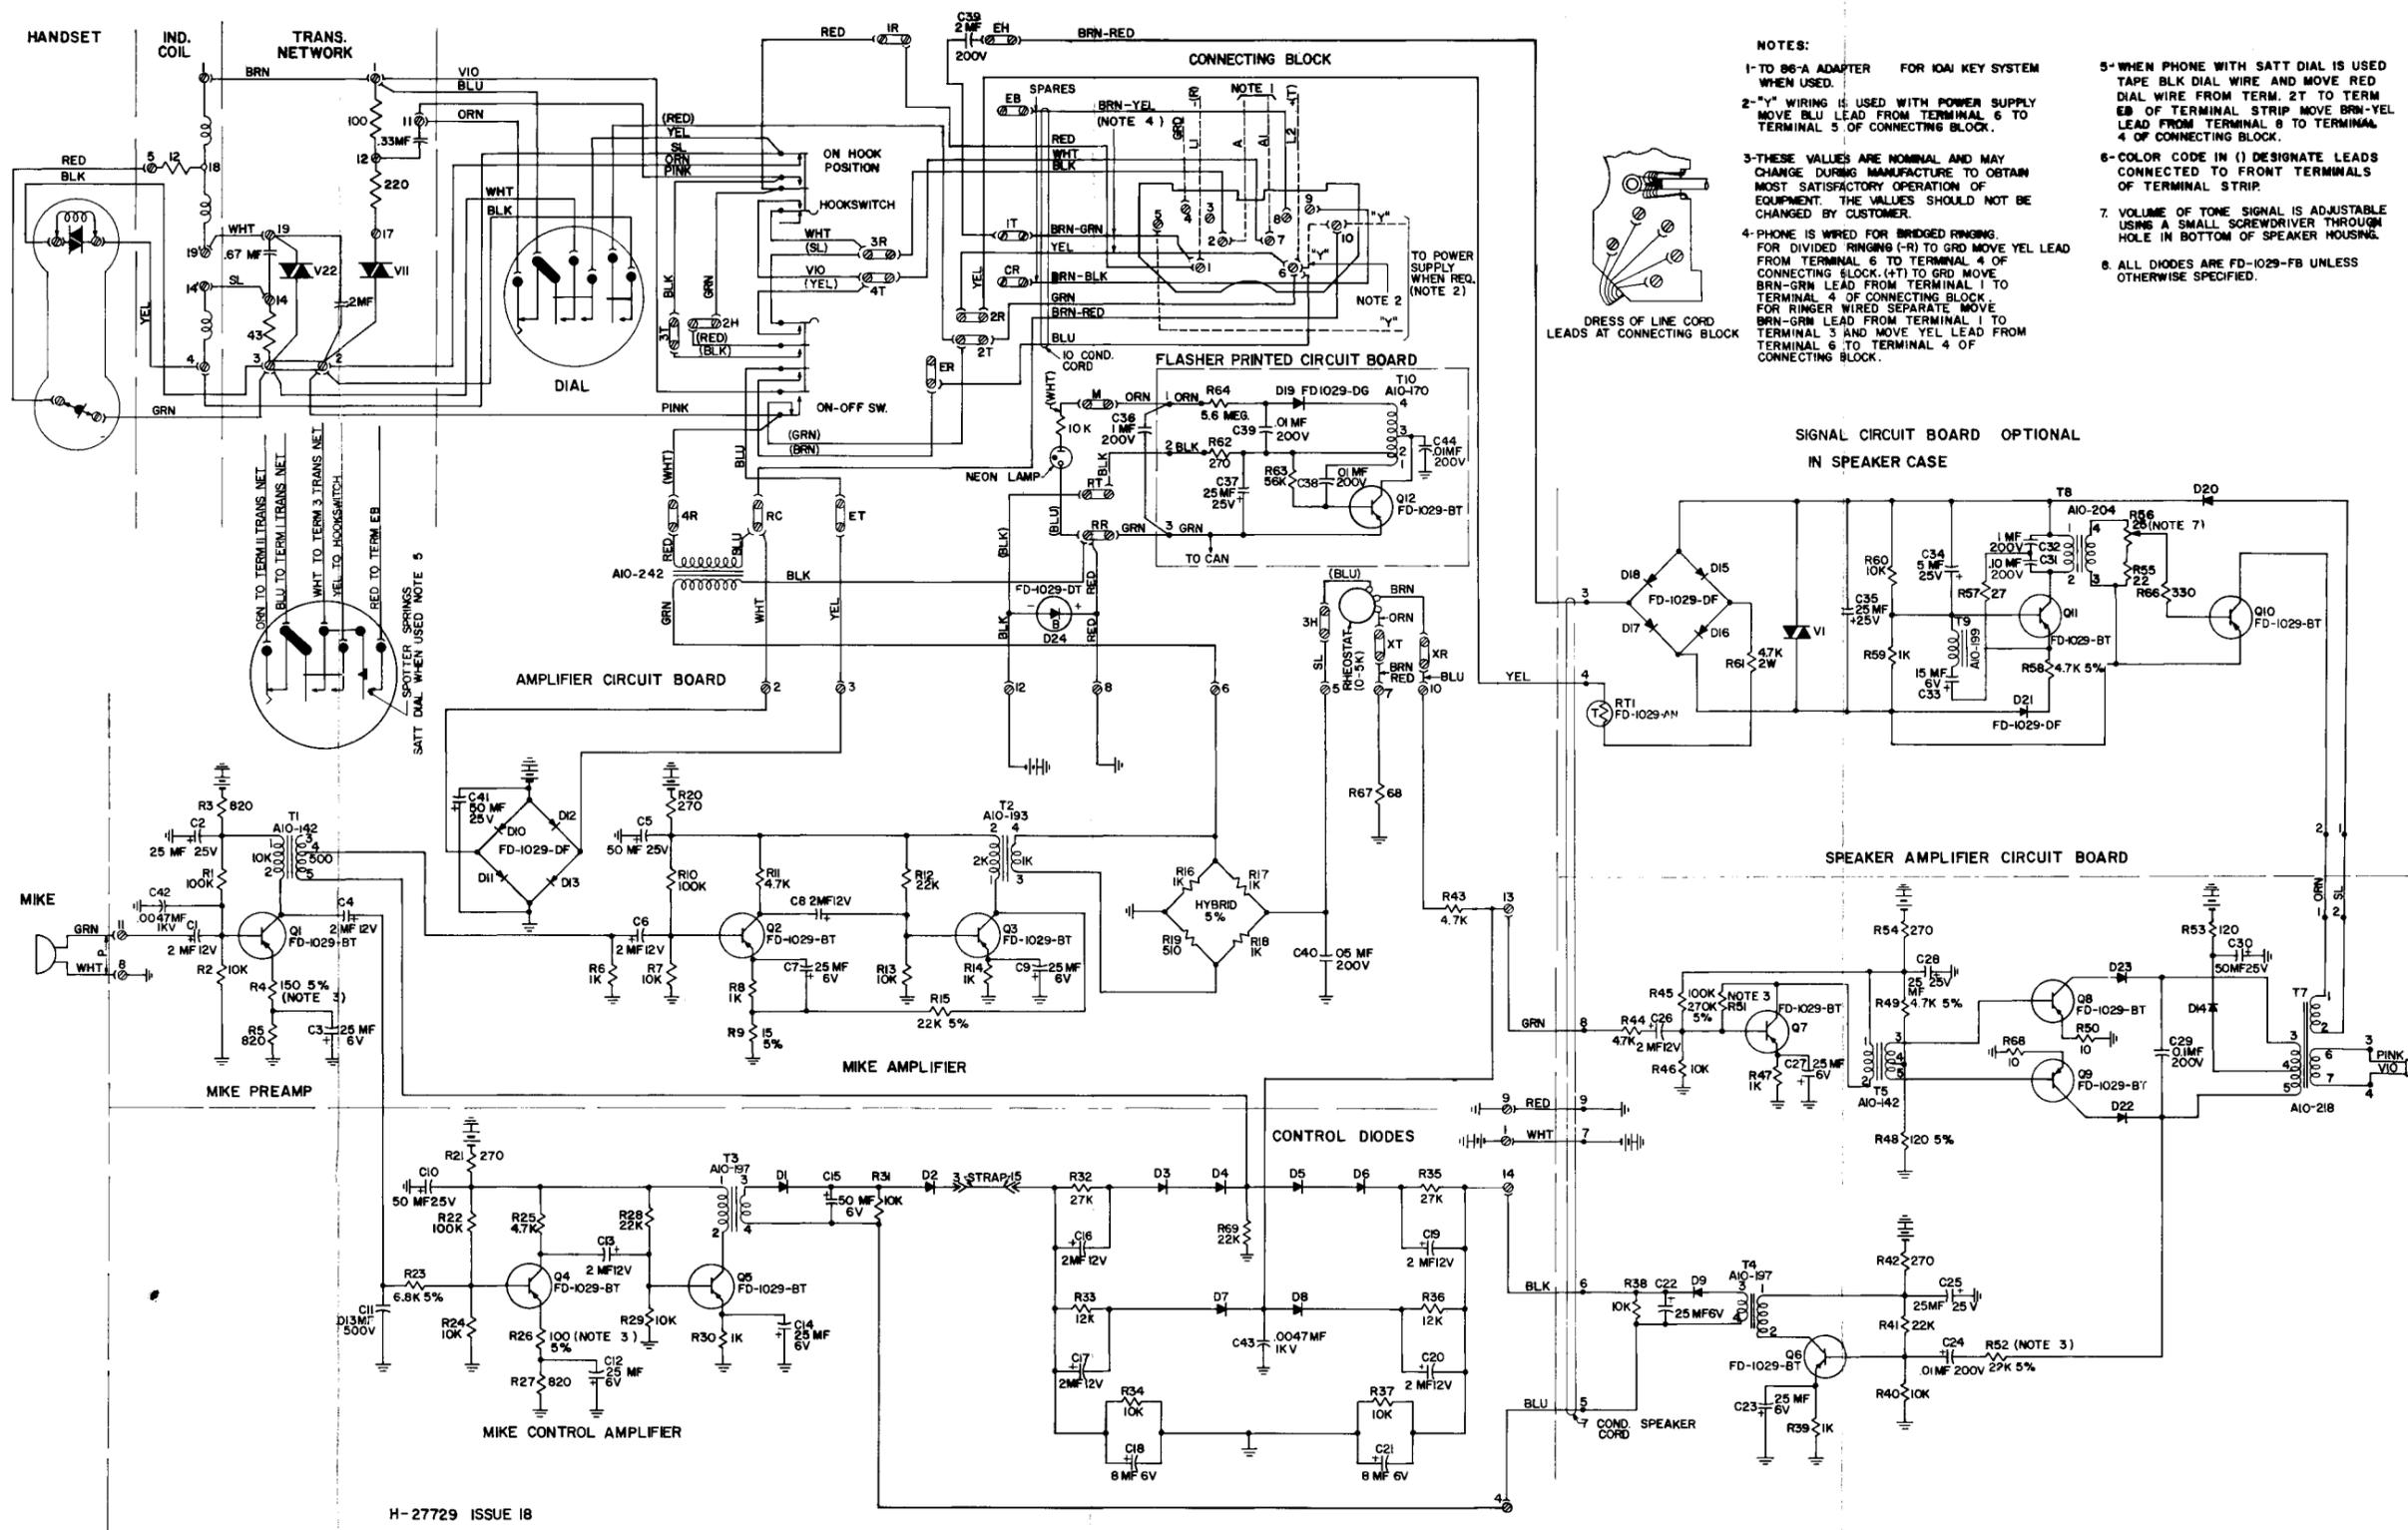

Figure 12. Schematic and Wiring Diagram, Type 880 Speakerphone.
- (1) Position the dial assembly in the backing plate, and align the dial mounting screw holes with the holes in the backing plate.
- (2) Fasten the dial to the backing plate with the three dial mounting screws.
- (3) Connect the dial leads to their proper terminals (Figure 12) as follows (non-SATT dial):
- (1) Remove the lower housing.
- (2) Release the amplifier circuit board by pressing aside the two spring type mounting brackets, and set it aside.
- (3) Disconnect the line cord leads from the terminal strip.
- (4) Release the line cord holder and pull out the old line cord.
- (5) For bridged ringing, refer to Figure 12 and connect the new line cord leads to the terminal strip as follows:
5.11 Refer to Figure 12 and its appropriate note for divided ringing connections.
6.01 The Type 880 Speakerphone (refer to Figure 12) contains two separate telephone circuits (basic and electronic). Each circuit contains components peculiar to the mode of operation, and also those which are common to both circuits. Switching between circuits is accomplished through an ON/OFF switch which is interconnected with a standard hookswitch. When the ON/OFF switch is in the OFF position, the hookswitch functions in the same manner as the hookswitch of a standard dial telephone. When the ON/OFF switch is in the ON position, the switch serves as a hookswitch in the "off-hook" position. In addition to performing the same functions as a hookswitch, the ON/OFF switch also shunts the transmission network out of the circuit and closes the path between lines L1 and L2 and the rectifier, thus energizing the electronic circuits.